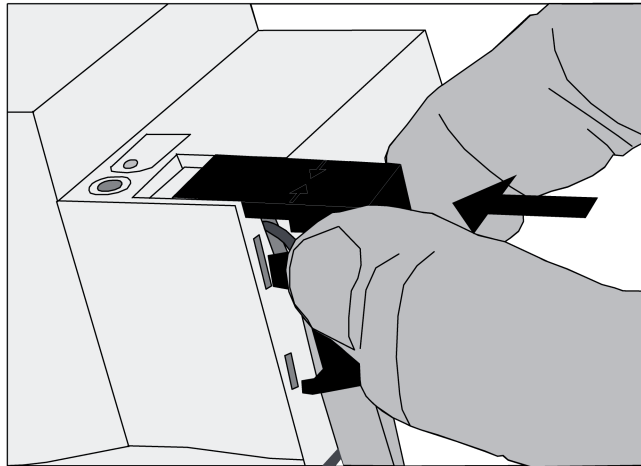

Figure 6: Installing the cover
- Install cover on top of the bus terminal so that it snaps into place (figure 6).